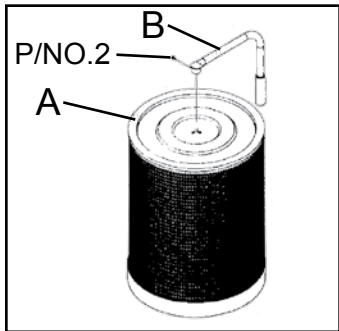

FIG. 1
Mount the cleaning bar (B) on the top canister filter (A) by tightening the hex head screw M6 x 16mm (P/No.2). Please make sure the screw is locked tightly. Please see FIG. 1 and 2.